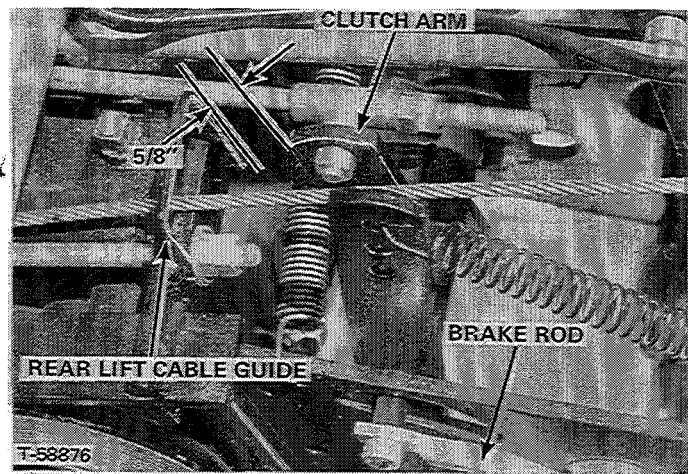

FIGURE 38
1. See Figures 38 and 39. Adjust jam nuts on rear end of brake rod so that when foot clutch brake pedal is pushed firmly forward clutch arm will stop with its forward edge 5/8 inch to rear of the rear lift cable guide near the bevel gear box when the brake is locked tight.